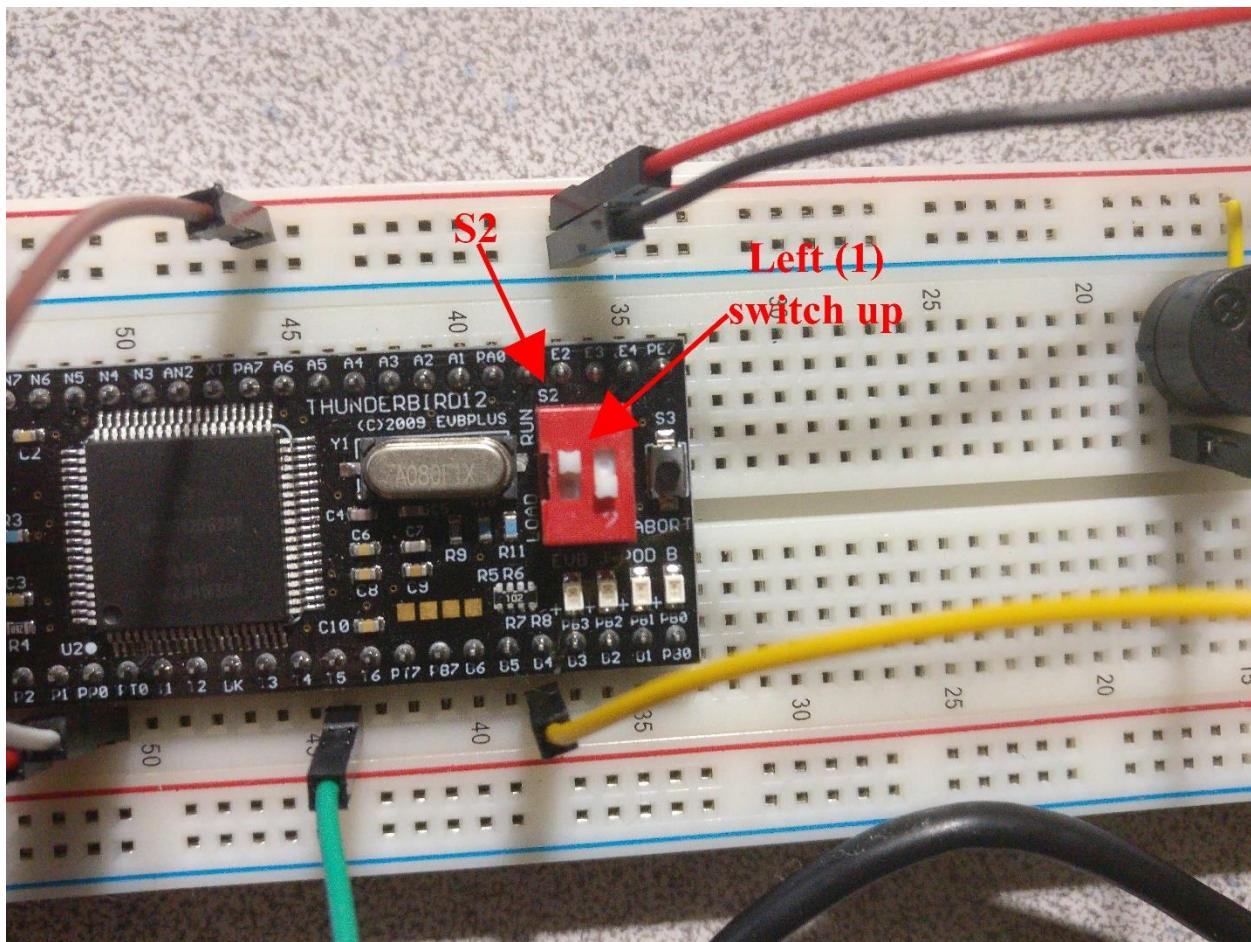

Figure 10-3 – Switch configuration on Thunderbird12
9. Switch the left switch in the S2 switch section to the up position, towards the “RUN” label. Refer to Figure 10-3 for an example of what the switch configuration should look like.